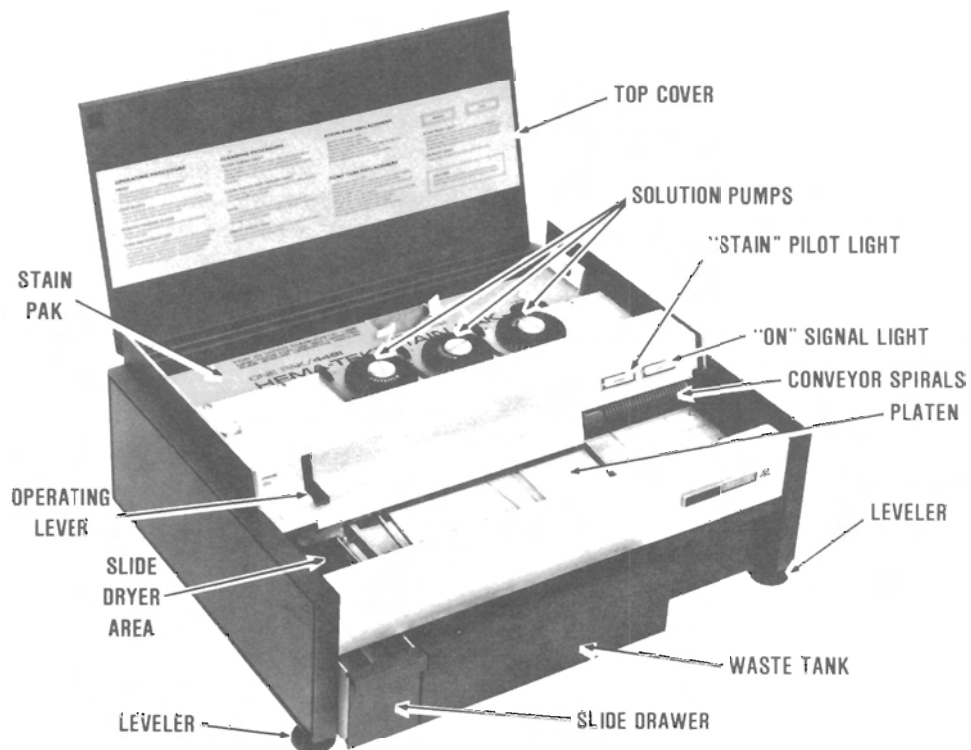

Figure 1-1
The mechanical operation of the slide stainer is simple and unique. Two conveyor spirals (Figure 1-1) are utilized to convey separate slides face down over the platen. Three sensing switches are triggered sequentially to activate three solution pumps which meter and deliver a special stain, buffer and rinse into the capillary space intervening between the slide and platen. After staining and thorough rinsing are accomplished, the slide is dried by a flow of air from a low velocity blower and then deposited in a slide drawer.
Two grooved knobs or levelers (Figure 1-1) located on the bottom at each end of the front side of the instrument may be adjusted to raise or lower the instrument to a level position. The circular level will indicate when the levelers have been properly adjusted and the instrument is level.
The slide drawer is located below and at the left end of the platen (Figure 1-1). It receives the slides as they drop from the platen after being stained, rinsed and dried. The drawer will hold 100 slides.
The waste tank (Figure 1-1) is located underneath the platen and collects used and overflow stain solutions. To avoid spillage of the contents while emptying the waste tank, carefully pull waste tank away from instrument and support the bottom of the waste tank to hold it level during removal from the instrument.
The stain pilot light is located at the right side of the instrument near the top (Figure 1-1). It is on when HEMA-TEK Slide Stainer is functioning properly. When the Stain Pak is reduced to a reserve sufficient to stain only about 20 slides, a weight-sensing device cuts the circuit and the light goes off. The Stain Pak should be replaced at this time.
The "ON" signal light is to the right of the stain pilot light (Figure 1-1). When the operating lever is moved to the "ON" or "PRIME" position, the light goes on.
- Inspect the slide dryer area (Figure 1-1) for noticeable air flow.